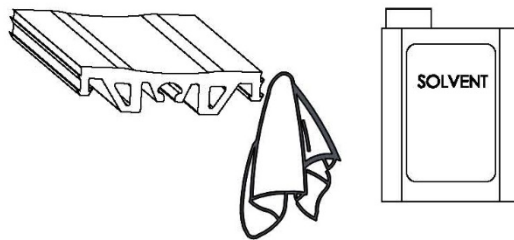

Figure 2
2. Using a solvent (by others) that is safe for elastomeric materials clean the ends of the seals. **See Figure 2**